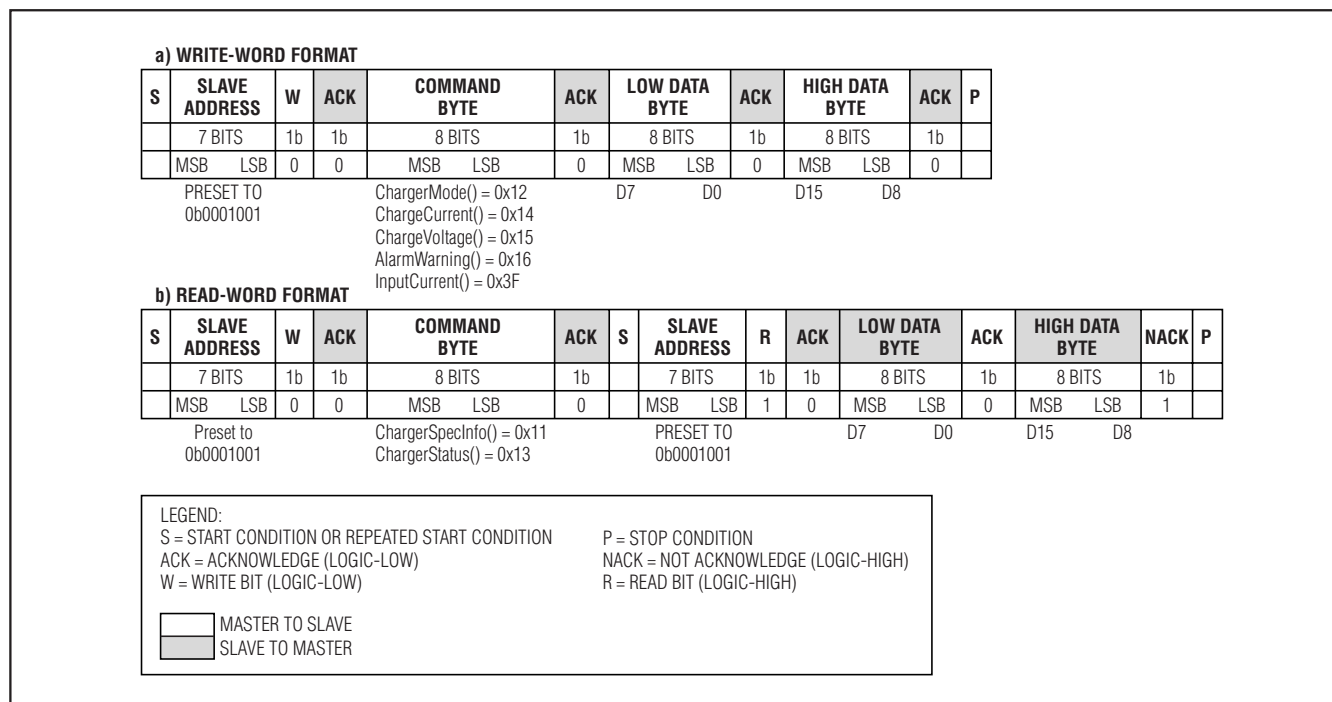

Figure 3. SMBus Write-Word and Read-Word Protocols
To set the charge current, use the SMBus to write a 16-bit ChargeCurrent() command using the data format listed in Table 2. The ChargeCurrent() command uses the Write-Word protocol (see Figure 3). The command code for ChargeCurrent() is 0x14 (0b00010100). When  $RS2 = 10m\Omega$ , the MAX8731A provides a charge current range of 128mA to 8.064A, with 128mA resolution. Set ChargeCurrent() to 0 to terminate charging. Upon reset, the ChargeVoltage() and ChargeCurrent() values are cleared and the charger remains off until both the ChargeVoltage() and the ChargeCurrent() commands are sent. Both DHI and DLO remain low until the charger is restarted.
To set the input current limit, use the SMBus to write a 16-bit InputCurrent() command using the data format listed in Table 3. The InputCurrent() command uses the Write-Word protocol (see Figure 3). The command code for InputCurrent() is 0x3F (0b00111111). When  $RS1 = 10\text{m}\Omega$ , the MAX8731A provides an input-current-limit range of 256mA to 11.004A, with 256mA resolution. InputCurrent() settings from 1mA to 256mA result in a current limit of 256mA. Upon reset the input current limit is 256mA.
The MAX8731A receives control inputs from the SMBus interface. The MAX8731A uses a simplified subset of the commands documented in System Management Bus Specification V1.1, which can be downloaded from [www.smbus.org](http://www.smbus.org). The MAX8731A uses the SMBus Read-Word and Write-Word protocols (Figure 3) to communicate with the smart battery. The MAX8731A performs only as an SMBus slave device with address 0b0001001\_ (0x12) and does not initiate communication on the bus. In addition, the MAX8731A has two identification (ID) registers (0xFE): a 16-bit device ID register and a 16-bit manufacturer ID register (0xFF).